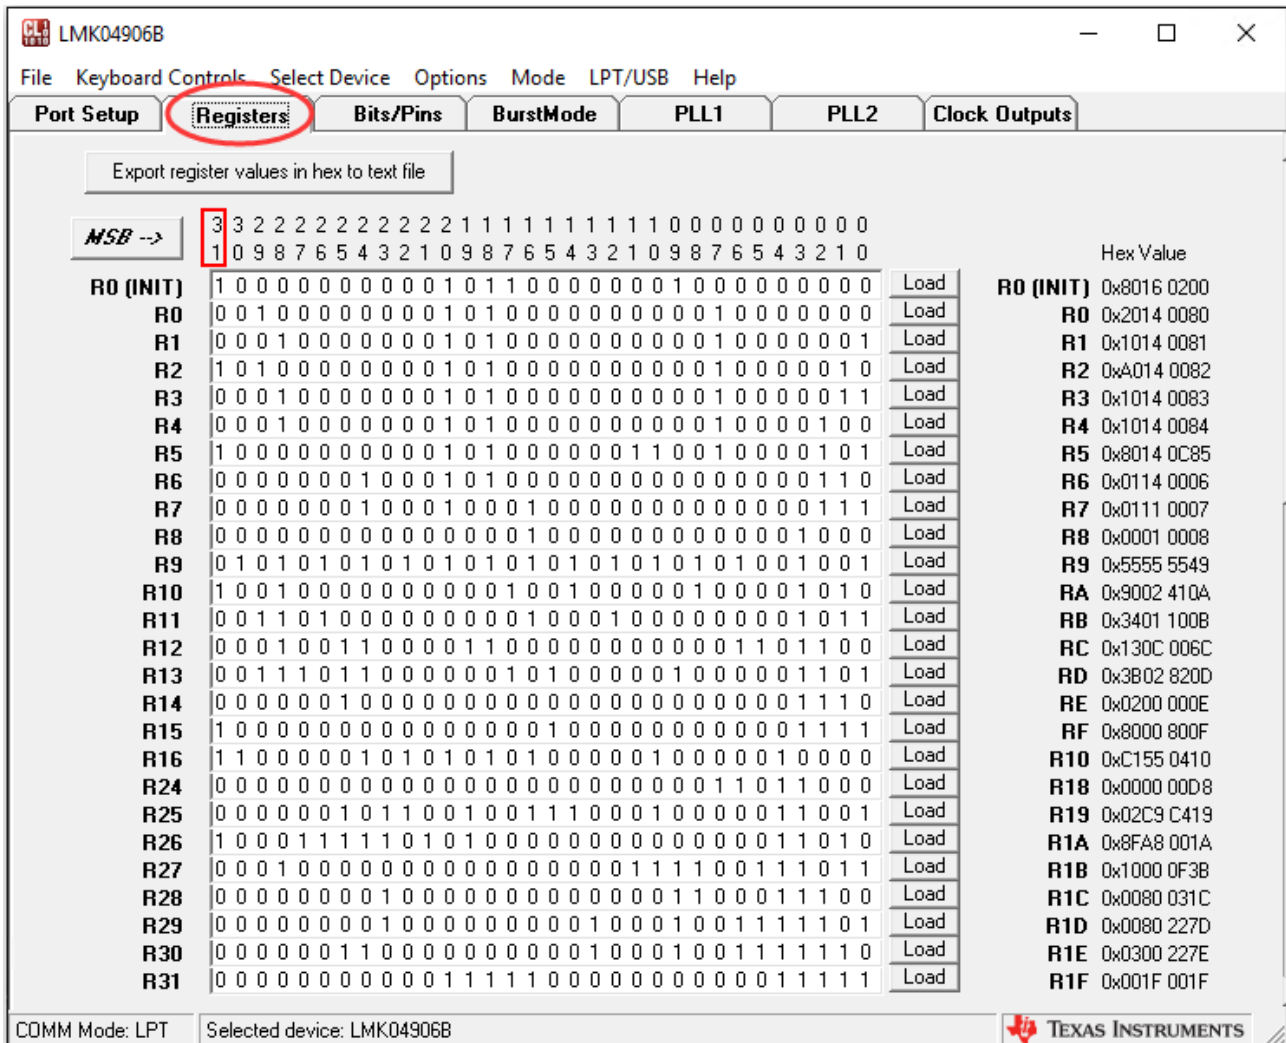

Figure 5-11 Open Register Table on Codeloader
- After the setting is completed, CodeLoader generates a Register Table, which contains users setting frequency corresponding register values (See **Figure 5-11**).